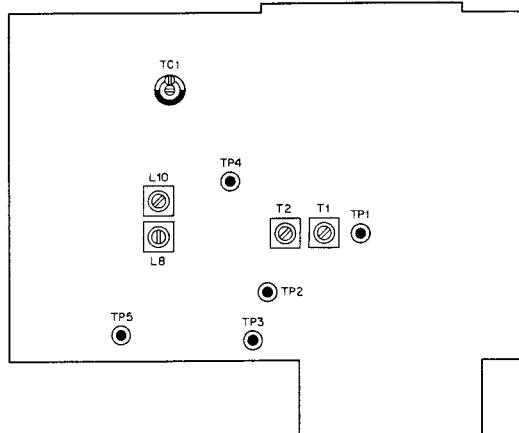

Fig. 33 Counter mixer unit (DG-1: Option)
- 2) Adjust the trimmer TC1 in the counter mix unit for 1 MHz \pm 5 Hz (refer to Fig. 33).
- 2) Connect RF VTVM to TP2 in the counter mixer unit (X48-1150-00) and adjust T1 and T2 in the same unit until the peak value is obtained (output is approx. 0.12 to 0.2V) (refer to Fig. 33).